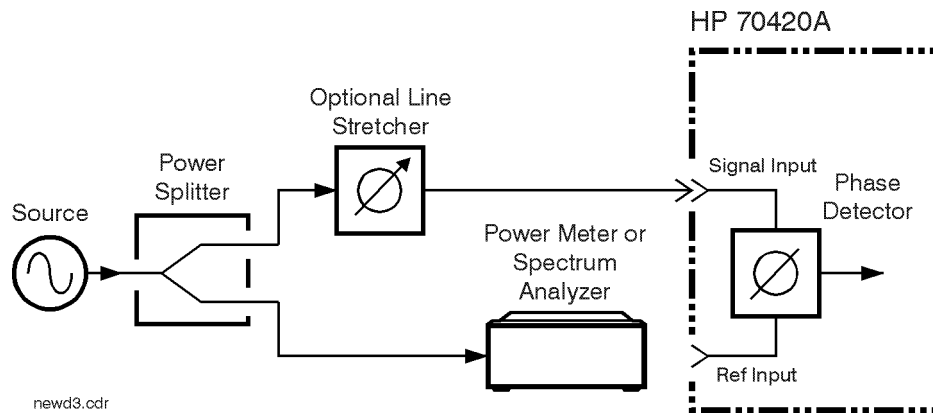

Figure 8-10 Measuring Power from Splitter
1. Connect circuit as per Figure 8-10 on page 8-17, and tighten all connections.